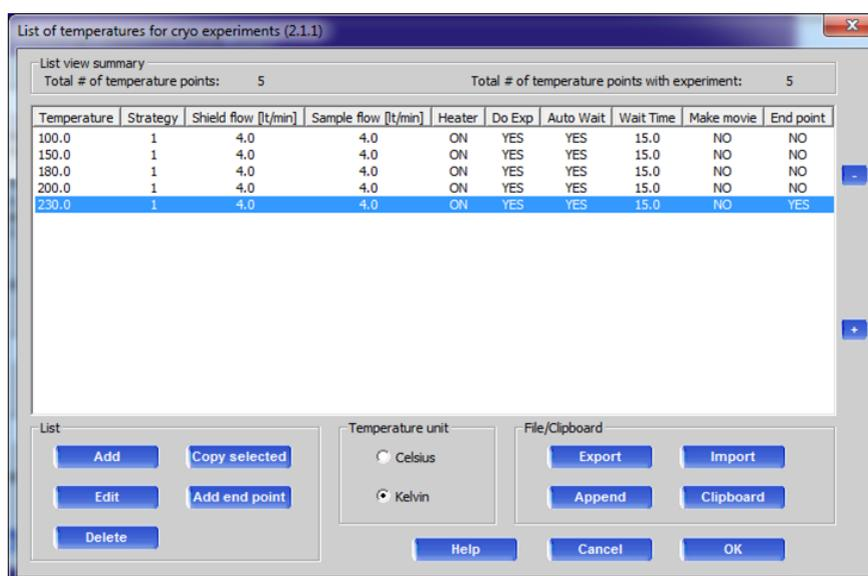

Figure 16: Window showing temperature list for multi-temperature/wavelength experiment
5. For either Mo or Cu (or both), click on either the **Strategy 1** or **Strategy 2** button. Select **Edit runs** and then import the generated strategy (Figure 16).